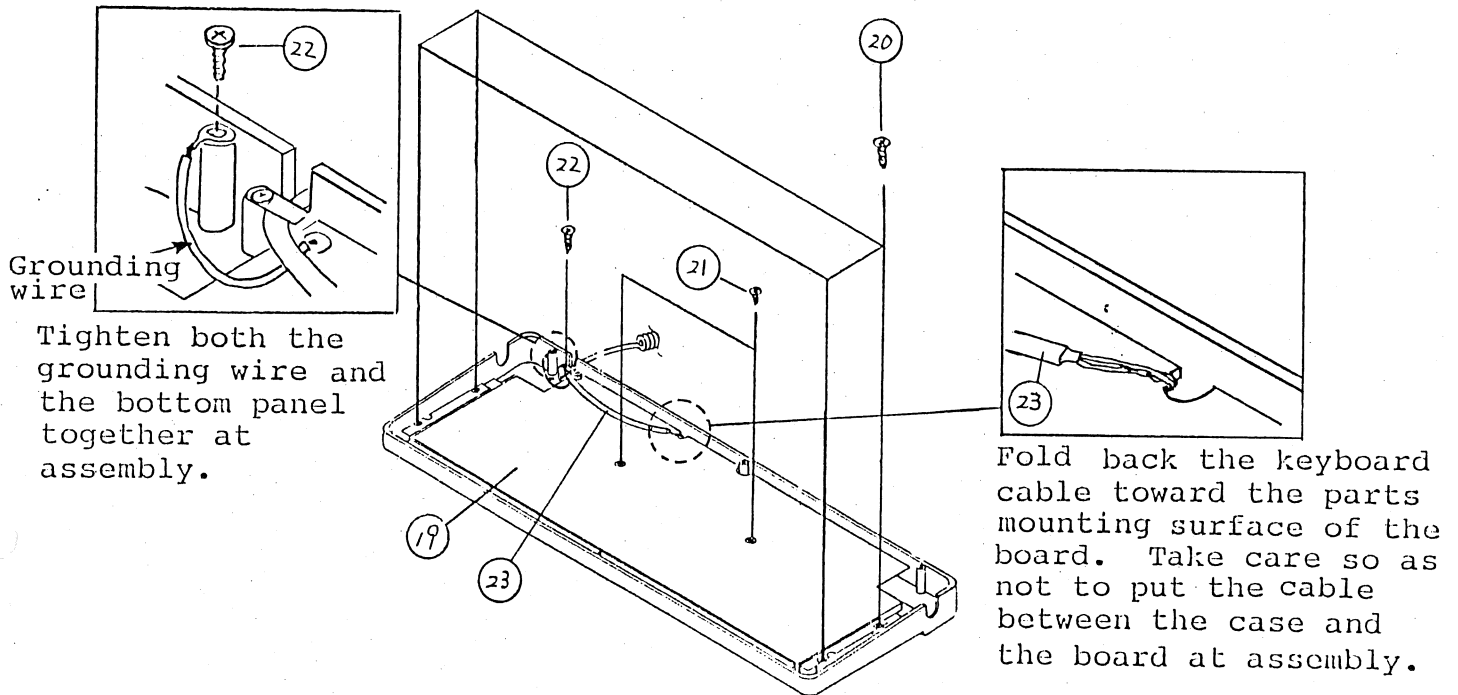

Fig. 6-2-2 Removal of Keyboard PWB
- (1) Remove the bottom panel according to the procedures described in 2).
- (2) Remove the four tapping screws (No. 20) from the keyboard soldered surface. (See Fig. 6-2-2.)
- (3) Remove the two tapping screws (No. 21) from the keyboard soldered surface. (See Fig. 6-2-2.)
- (4) Remove the tapping screw (No. 22) from the keyboard soldered surface. (See Fig. 6-2-2.)
- (5) Pull up the keyboard PWB.